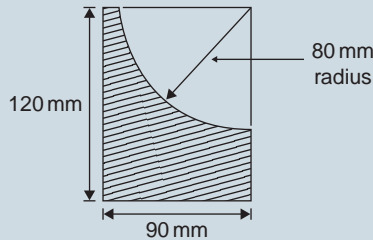

Figure 2.28
13. Determine the shaded area of the template shown in Fig. 2.28.